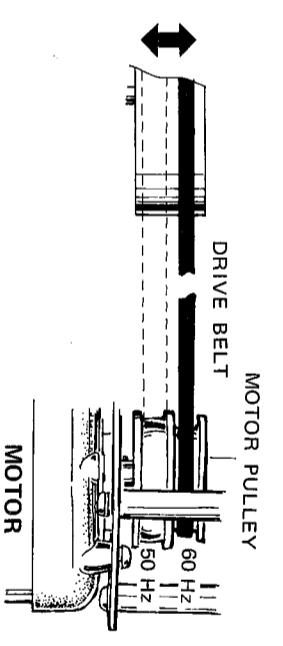

Fig. 20
9.1 SELECTION OF LINE FREQUENCY (Figs. 20, 21)